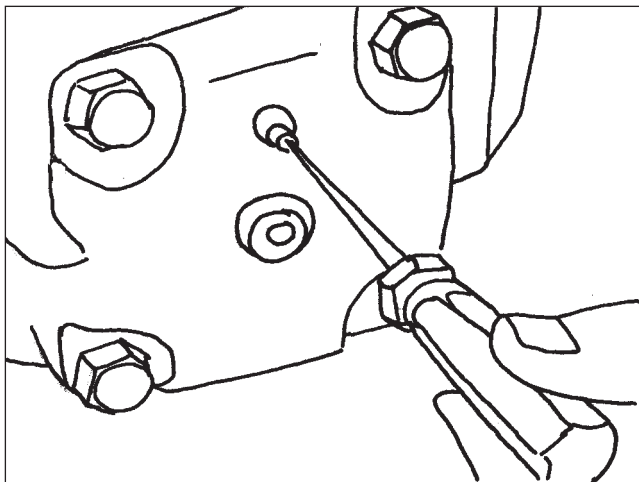

Figure 143
21. Install the relief plungers in the cylinder head and bearing cap. Screw in the relief plungers until they are 1/8" below flush with the end caps (Figure 143).